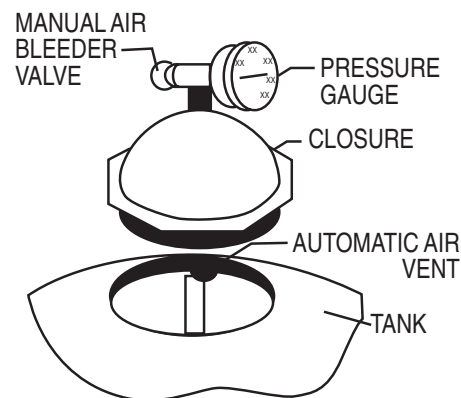

Figure 1.
- Pivot the diffuser out of the center of the tank on the TR40, 50, 60, 100 & 140 by rotating the diffuser assembly counter clockwise. (**NOTE:** The multi-diffuser assembly should not be moved on models TR100C, TR100C-3 and TR140C, TR140C-3. After installing the filter media as described below, check to make sure the tops on the diffusers are parallel to the top of the sand bed.) Fill the tank about half full of water. Pour pea gravel first (if used) and then the sand into the top of the filter at a slow rate so that the impact of the filter media does not damage the laterals. See Table 2 for the proper amounts of sand and gravel. Fill filter to the proper level to maintain freeboard, as shown in Table 2. Pivot the diffuser assembly back to its vertical position if it was moved. Be certain the automatic air vent is protruding into the top of the closure as indicated below in Figure 1. Ensure that the automatic air vent is in the center of the filter closure. Wash away all sand around the threaded opening at the top of the tank.